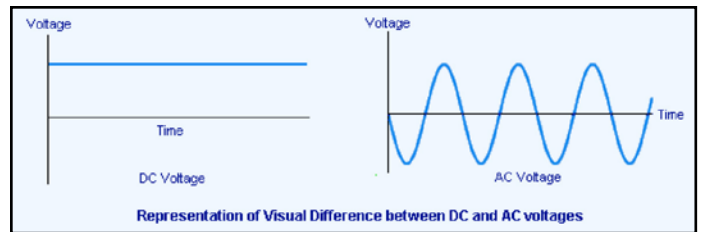

Figure 2 The term alternating current defines a type of electricity characterized by voltage and current that varies with respect to time.
Alternating current (AC). The term alternating current defines a type of electricity characterized by voltage (think water pressure in a hose) and current (think rate of water flow through the hose) that vary with respect to time (Fig. 2). As the voltage and current of an AC signal change, they most often follow the pattern of a sine wave. Due to the waveform being a sine wave, the voltage and current alternate between a positive and negative polarity when viewed over time. The sine wave shape of AC signals is due to the way in which the electricity is generated.